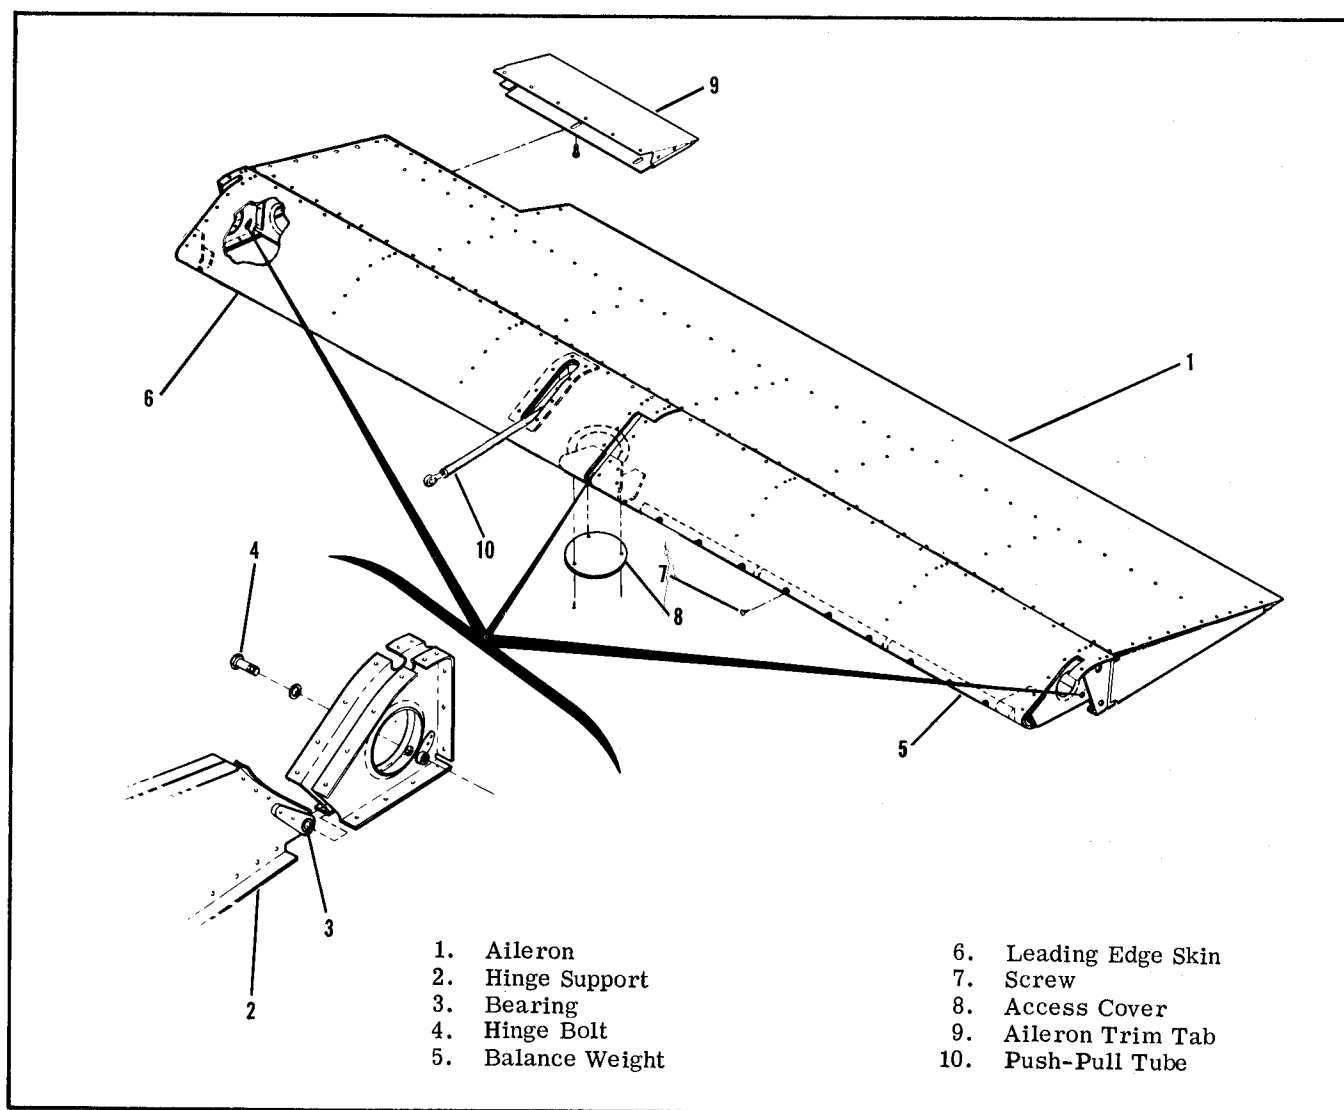

Figure 6-3. Aileron Installation
**6-12. REMOVAL OF AILERON.** (See figure 6-3.) Removal is accomplished by disconnecting push-pull rod, then removing aileron hinge bolts.